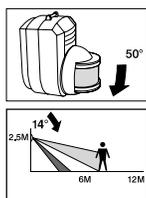

fig 8
- The Wirefree PIR Movement Detector has a swivel sensor head to allow you to adjust the area of detection (see Testing Procedure in Section 6): tilting the head upwards will increase the detection distance, tilting it downward will reduce the detection distance. The sensor head will also turn to the left and right (see figs 8 and 9).